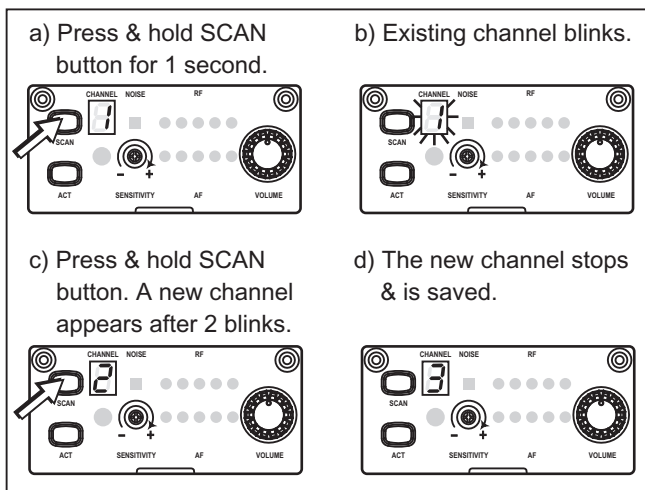

Fig. 3
- (B) Scan Manually for a Receiver Channel: Press & hold SCAN button **6**, channel number in LED screen starts blinking. Press & hold SCAN button will force the channel number to go forward to the next channel in order after two consecutive blinks. When the desired channel number is located, release the button to stop and the new channel appears on the display, Fig. 3.